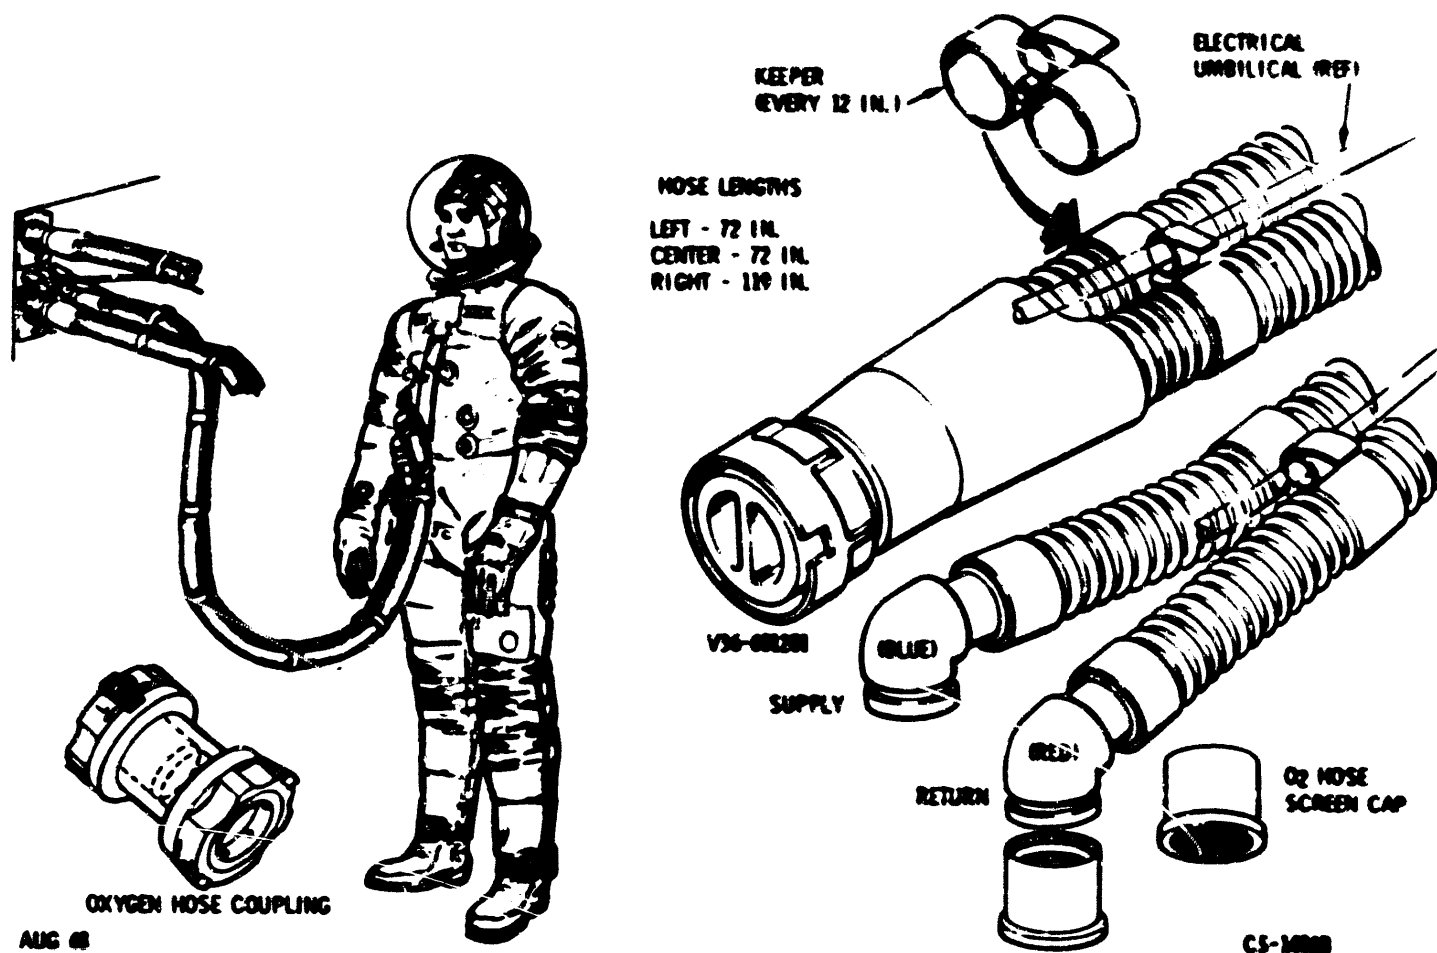

Figure 2.12-6. Oxygen Hose Assembly and Accessories
2.12.2.2.1 Oxygen Hose Assembly (Figure 2.12-6).
2.12.2.2.2 Oxygen Hose Coupling (Figure 2.12-6).
2.12.2.2.3 Oxygen Hose Screen Caps (Figures 2.12-6).